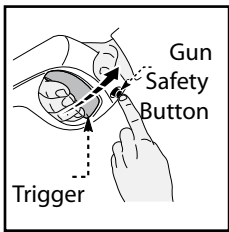

Fig. 17
- Release the safety lock button on spray gun (Fig. 17) while pointing the spray gun in a safe direction, away from yourself and others squeeze the trigger on the spray gun until there is a steady stream of water, letting the water and air out of the hose.